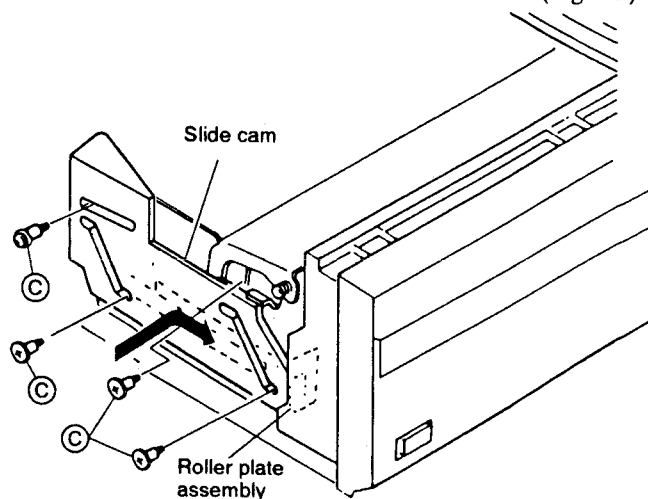

Fig. 18
- ② Tighten four screws ③ to install the slide cam. (Fig. 18)